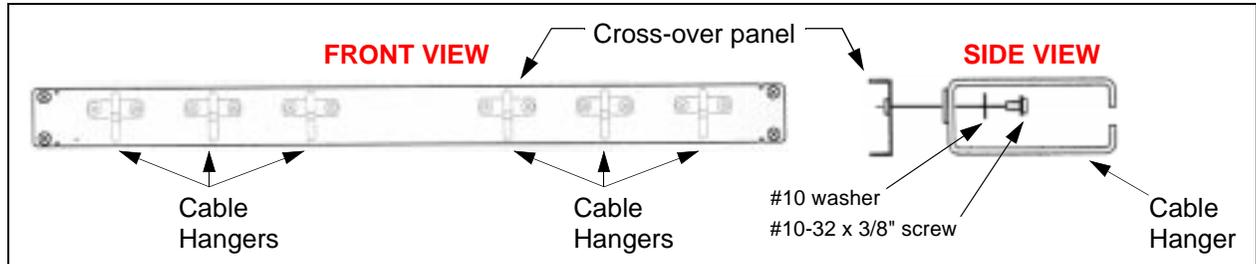

Figure 6 - Cross-over Panel Assembly
2. Place a #10 washer over each hole and thread a #10-32 x 3/8" Phillips-head screw through each washer and hole (see Figure 6).